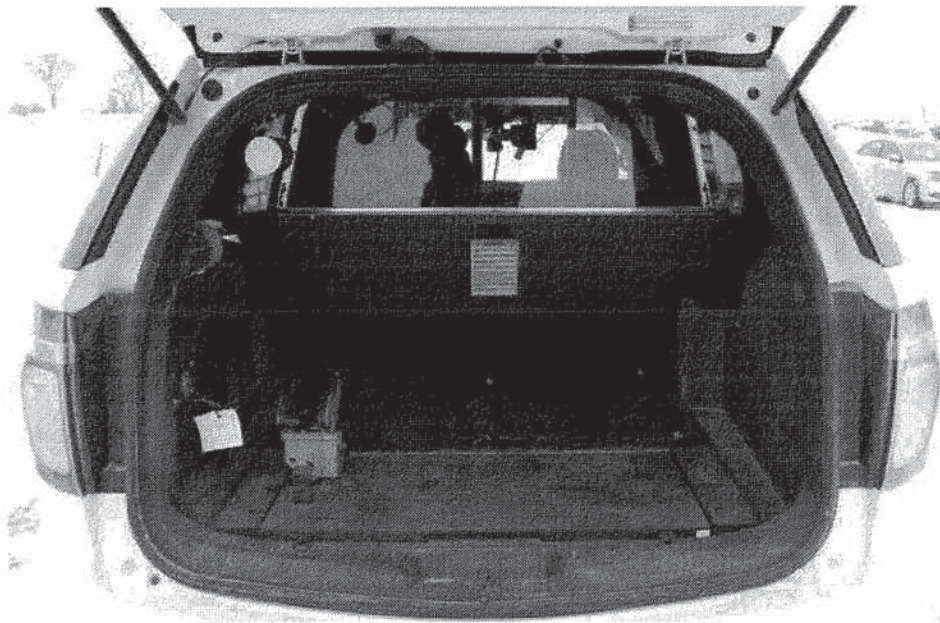

Figure 27 – Example of the approved cargo barrier installation in an SUV-type marked MP vehicle
37. *Figure 27 illustrates an example of an acceptable cargo barrier installation.*